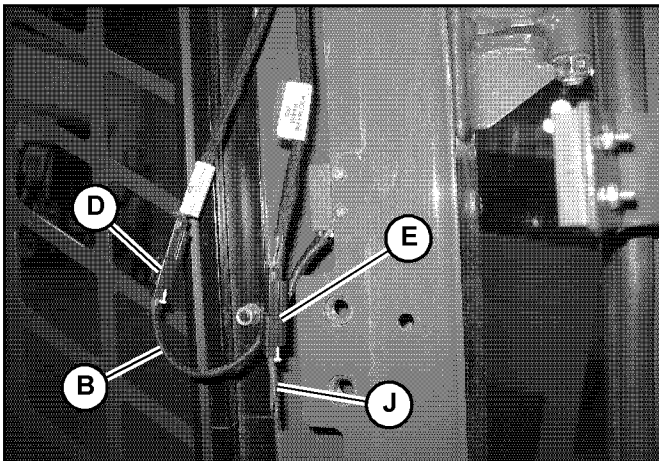

Fig. 44 – Door Switch Connection
1. Unplug door switch wire connector (B, Fig. 44) from “Door Switch” wire connector (D).
2. Transfer jumper (J) from “Wiper Interlock” wire connector (E), to “Door Switch” wire connector (D).